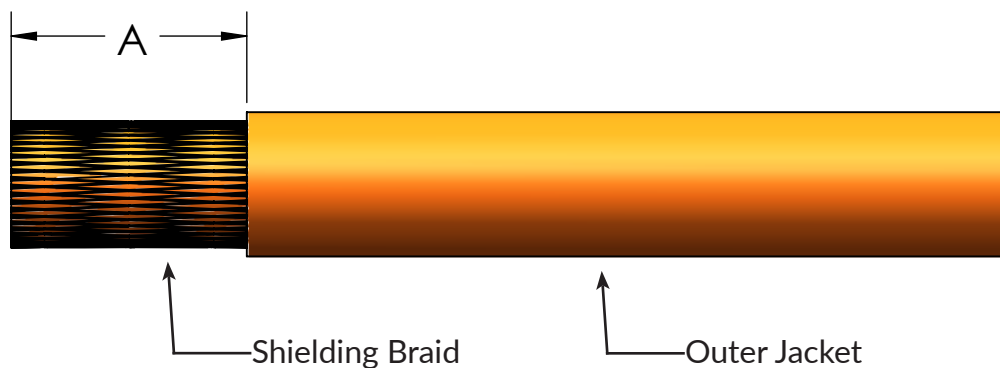

Figure 2
1) As figure 2 shown, strip the outer jacket per table 1 dimension "A", the shielding braid not allowed to be damaged when the cable stripped;